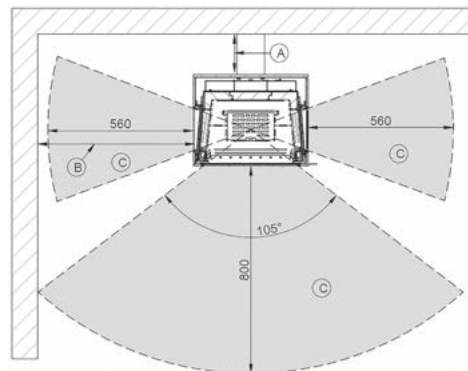

Fig. 4e
1. For installation against a straight wall, the following distances from walls must be maintained: a minimum distance of 160 mm must be maintained behind combustible components (Fig. 4e).